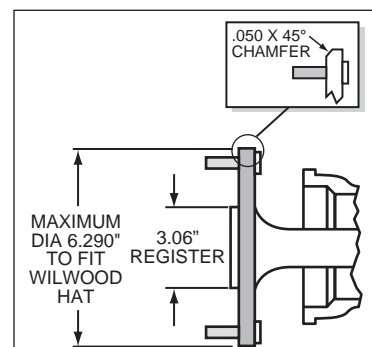

Figure 3. Axle Flange Maximum Dimension
- Maximum axle flange diameter must be no larger than 6.29" with a .050" x 45° chamfer (see Figure 3).
40 ft-lb. For an added measure of security, the bolts may be safety wired using standard 0.032 inch diameter stainless steel safety wire as shown in Figure 3. Please refer to Wilwood's data sheet DS-386 (available at www.wilwood.com/Pdf/DataSheets/ds386.pdf) for complete safety wire installation instructions. Repeat this procedure for the second caliper.